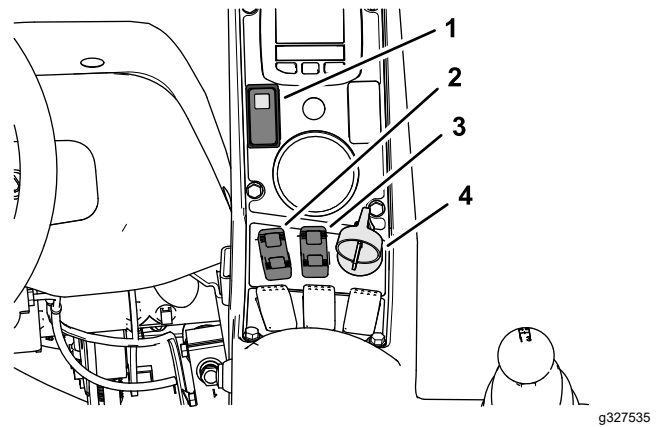
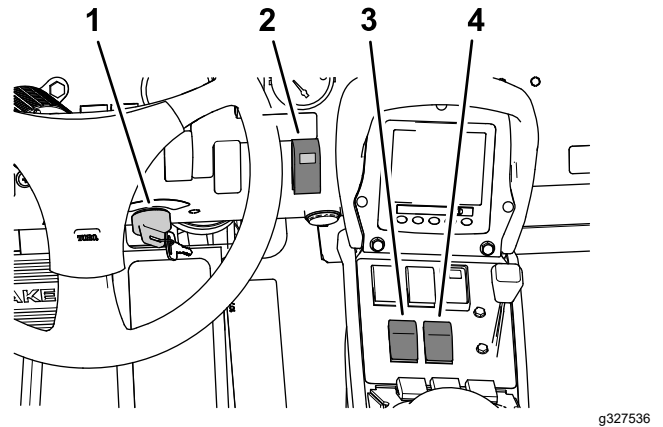
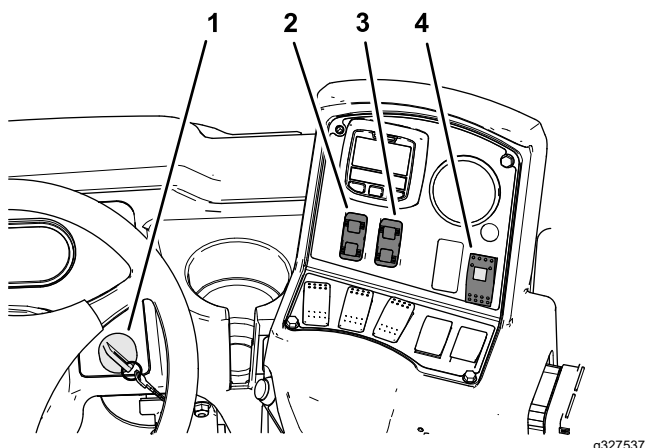

Figure 40
Figure 41
Figure 42
4. Press the sonic-boom switch to the ON position (Figure 40, Figure 41, or Figure 42).